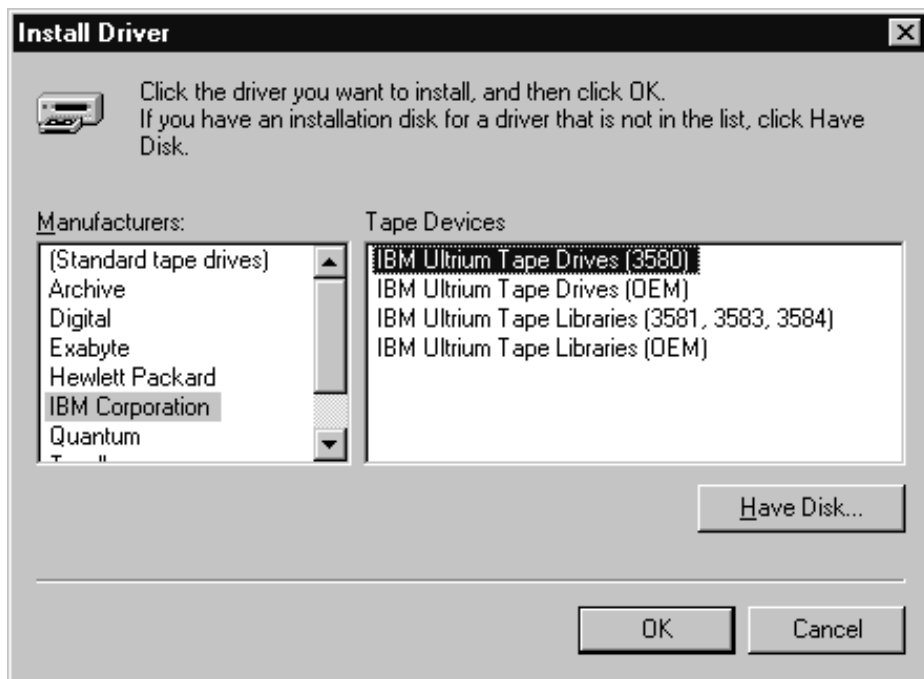

Figure 15. Install Driver Menu
8. Click **IBM Corporation**, select the device driver that matches your tape device, then click **OK**. See Figure 15.